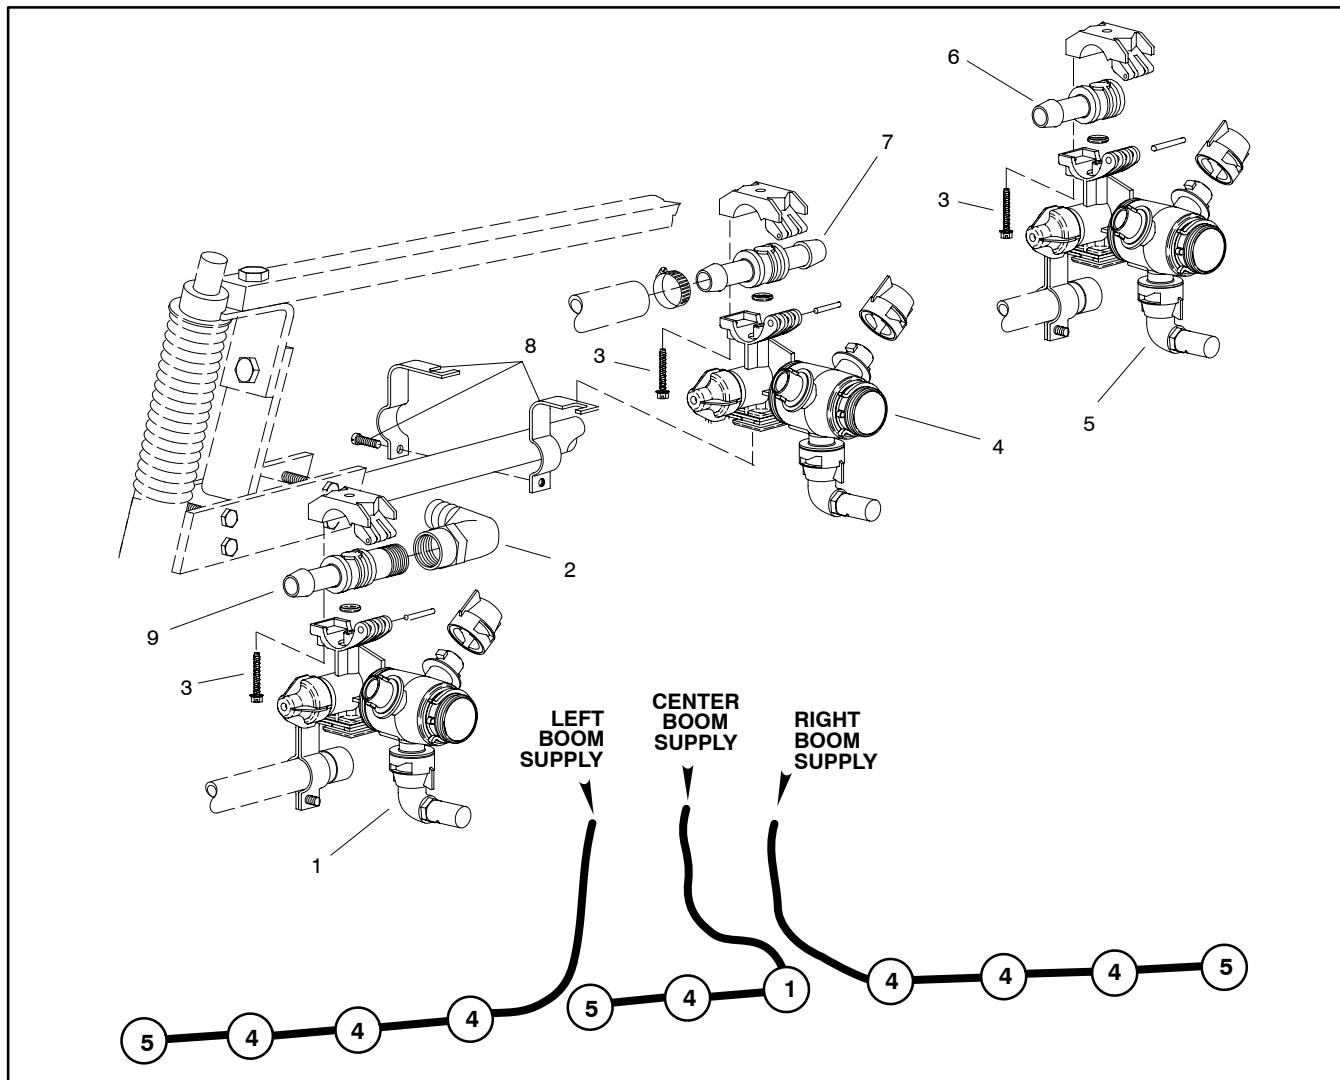

Figure 35
### Removal (Fig. 35)
### Installation (Fig. 35)
**NOTE: The type of hose barb on turret body determines turret location on spray boom. Refer to Figure 35 for turret position on booms.**